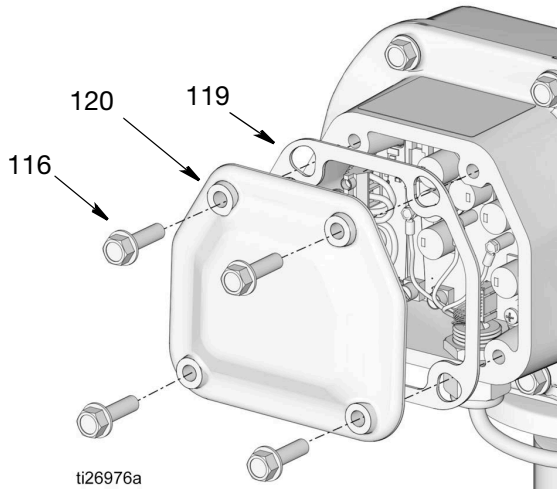

FIG. 55
- Remove the screws (116) from the motor control box cover (120) and remove the cover and gasket (119) (FIG. 55).